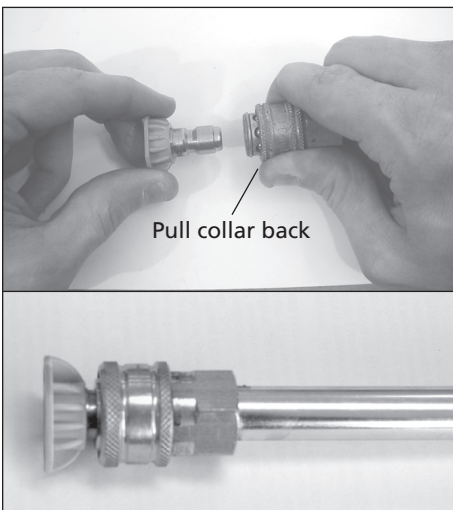

Figure 7 – Installing quick connect tip
6. Install quick connect tip by pulling back on collar and pressing in tip. Release collar, make sure it completely returns to its forward position and tip is secure (see Figure 7).